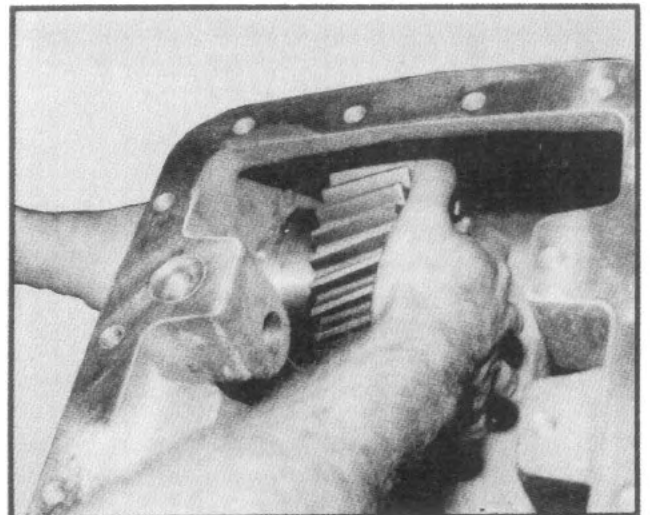

Fig. 6
3. Continue tapping the stem gear shaft until the double-row ball bearing is free from the housing and withdraw stem gear assembly from inside the housing (See fig. 6).